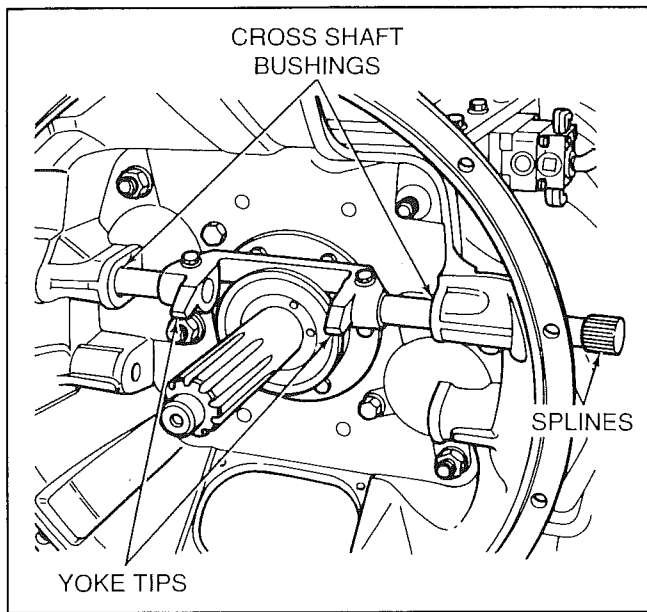

Figure 9-14. Clutch Release Yoke Contact Tip Inspection
1. Inspect the clutch release yoke contact tips for excessive wear (Fig. 9-14). Replace as necessary.